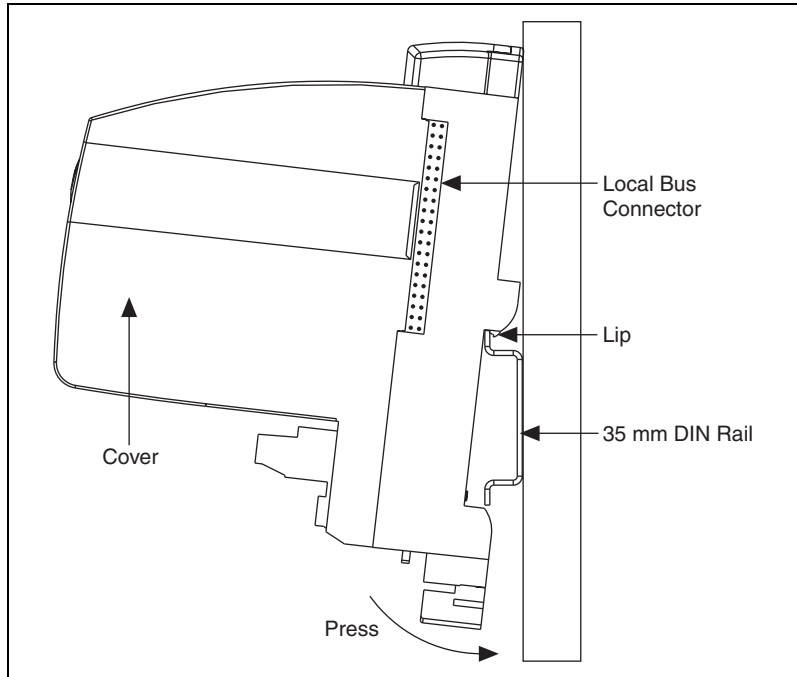

Figure 2-2. Mounting the FP-3000 onto a DIN Rail
2. Hook the lip on the rear of the FP-3000 onto the top of a 35 mm DIN rail and press the FP-3000 down onto the DIN rail, as shown in Figure 2-2.